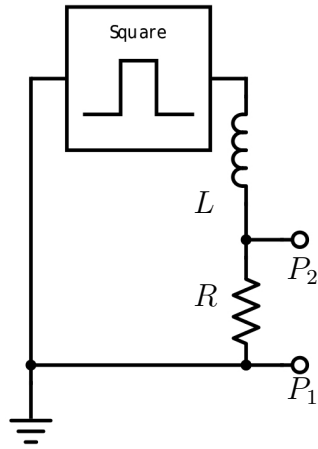

Figure 4: Circuit diagram with resistors in series and parallel.
- 3) Calculate the L/R time constant for the circuit in Fig. 4.
Build the circuit shown in Fig. 4, with $L = 150 \mu\text{H}$ and $R = 100 \Omega$, and adjust the frequency of the function generator to 100 kHz, keeping the output voltage levels the same. With the scope ground shield *always* plugged into ground at P_1 verify that the output of the function generator is indeed a square wave.